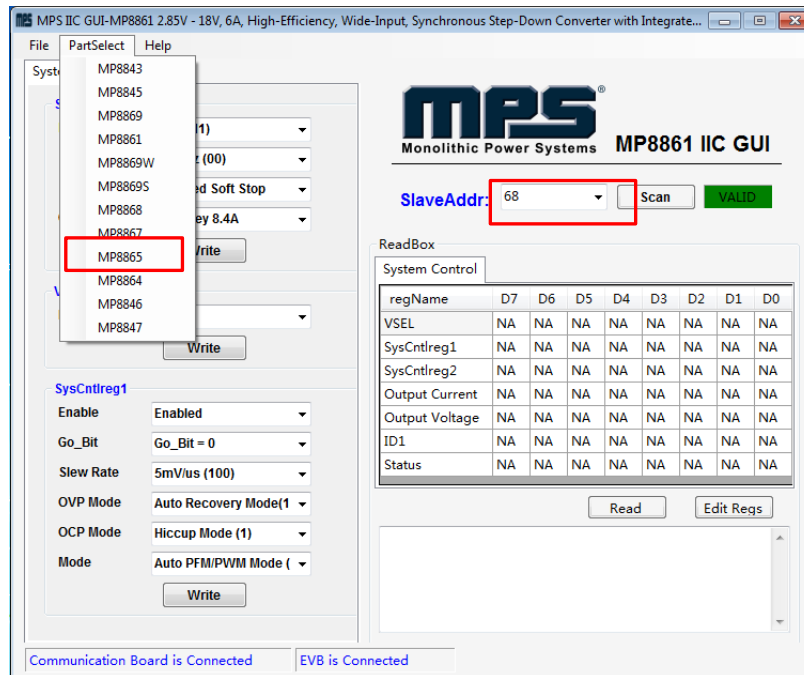
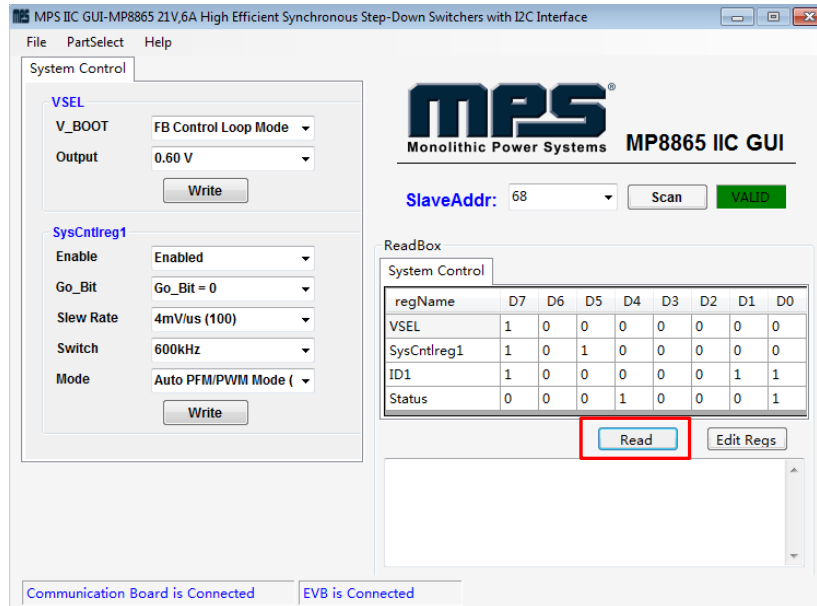

Figure 7: Appearance of Address Shows Successful Connection
Figure 9: Values from I2C Shown in Table
- If the connection is successful, the address will be listed in the “Slave Address” (see Figure 7).
- Click the **“PartSelect”** button to select the MP8865 (see Figure 7) (The default GUI window is for the MP8861). The Register Control menu will appear on the left side. I2C register values will be read and displayed on the right side after clicking the **“Read”** button (see Figure 9).